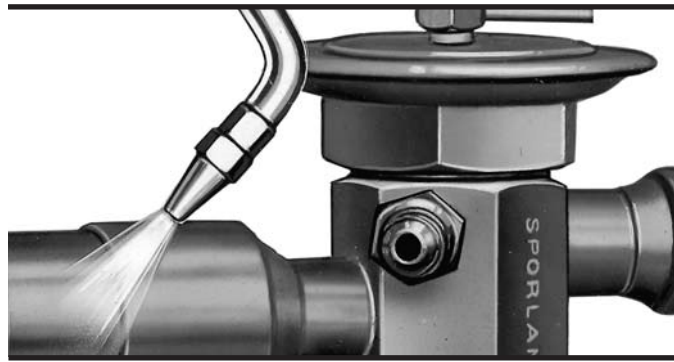

**Figure 1**
- Special heat exchanger which uses a portion of the refrigerant to cool the main body of liquid. See Figure 1.